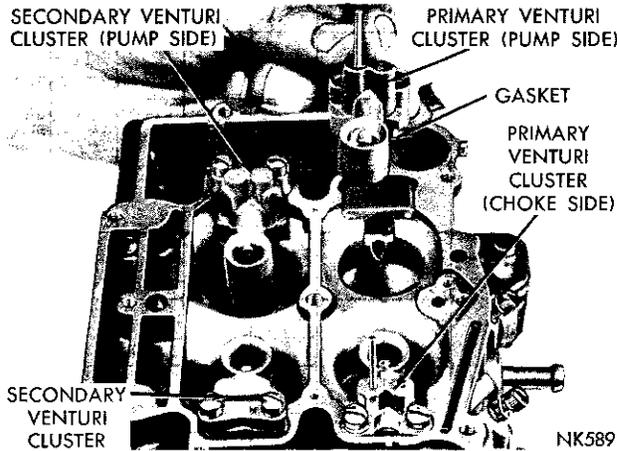

Fig. 5—Removing or Installing Primary Venturi Cluster
(4) Remove the screws that attach the primary venturi (choke and pump side) to the main body. Lift the venturi straight up and away from the main body, as shown in (Fig. 5). Discard the gaskets.
(4) Place new secondary venturi gaskets in position, then install the secondary venturi (pump and choke side) by lowering straight down on gaskets. Install attaching screws and tighten securely.
(5) Place new primary venturi gaskets in position, then install the primary venturi (pump and choke side) by lowering straight down on the gaskets. Refer to (Fig. 5). Install attaching screws and tighten securely.